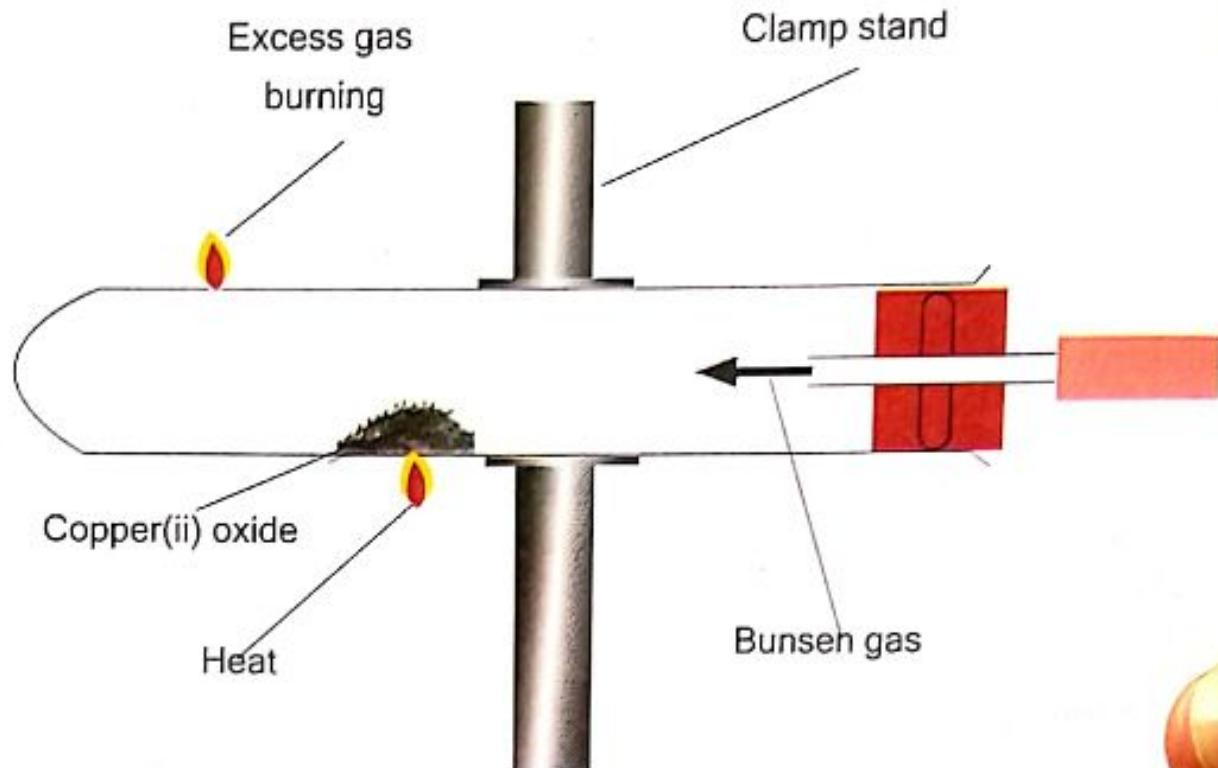

Figure 1.3: Passing hydrogen gas over copper (ii) oxide
1. Place a spatula load of black copper oxide in the combustion tube set up the apparatus as shown in Fig. 1.3.